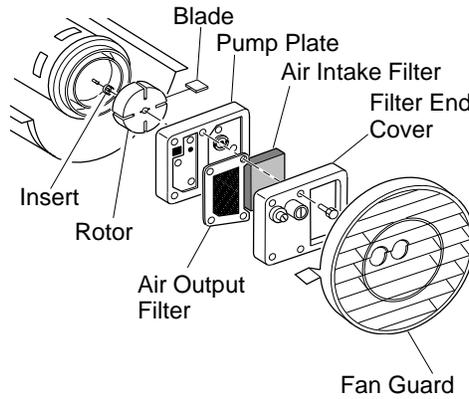

Figure 17 - Rotor Location
3. Remove filter end cover and air filters (see Figure 17).